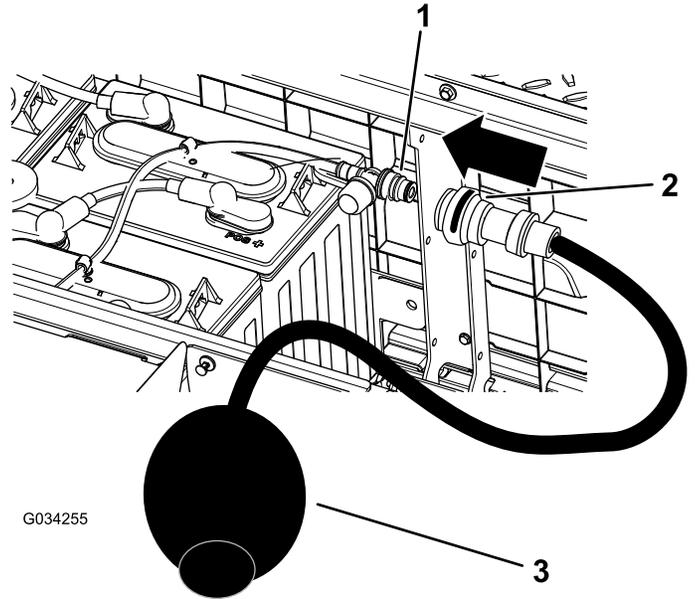

Figure 42
4. Connect your Toro water hand pump to the water-fill port (Figure 42).